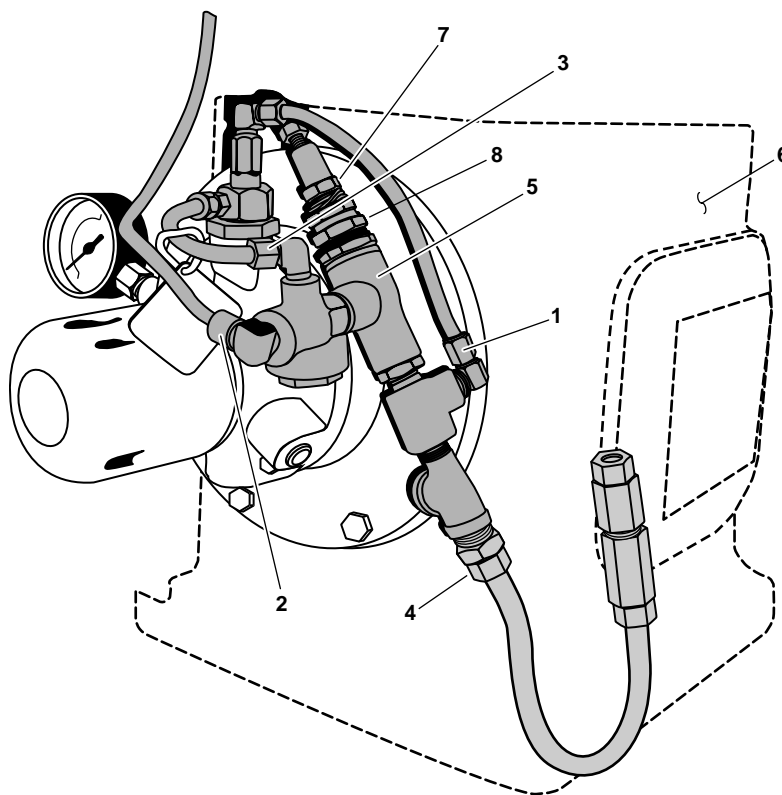

Figure 4. Unloader Pilot Valve
2. Remove the compressed air tubing and fittings from the air inlet (figure 4, item 1), the air out to head unloader (figure 4, item 2), the air in from hydraulic unloader (figure 4, item 3), and the compressed air tubing from the air tank (figure 4, item 4).
3. Unscrew the unloader pilot valve (figure 4, item 5) from the compressor (figure 4, item 6).
1. Install the unloader pilot valve (figure 4, item 5) onto the compressor (figure 4, item 6).
2. Connect the compressed air tubing and fittings from the air tank (figure 4, item 4), the air in from the hydraulic unloader (figure 4, item 3), and the air out to head unloader (figure 4, item 2) to the air inlet sides of the unloader pilot valve (figure 4, item 1).
- e. If the unloading pressure is incorrect, adjust the unloader pilot valve by turning the unload adjustment screw (figure 4, item 7) clockwise to increase the unloading pressure or counterclockwise to decrease the unloading pressure.
- g. If the loading pressure is incorrect, adjust the differential setting (difference between unloading and loading pressure) by turning the differential adjustment hex nut (figure 4, item 8). Increase the differential pressure by turning the hex nut clockwise, and decrease by turning counterclockwise.